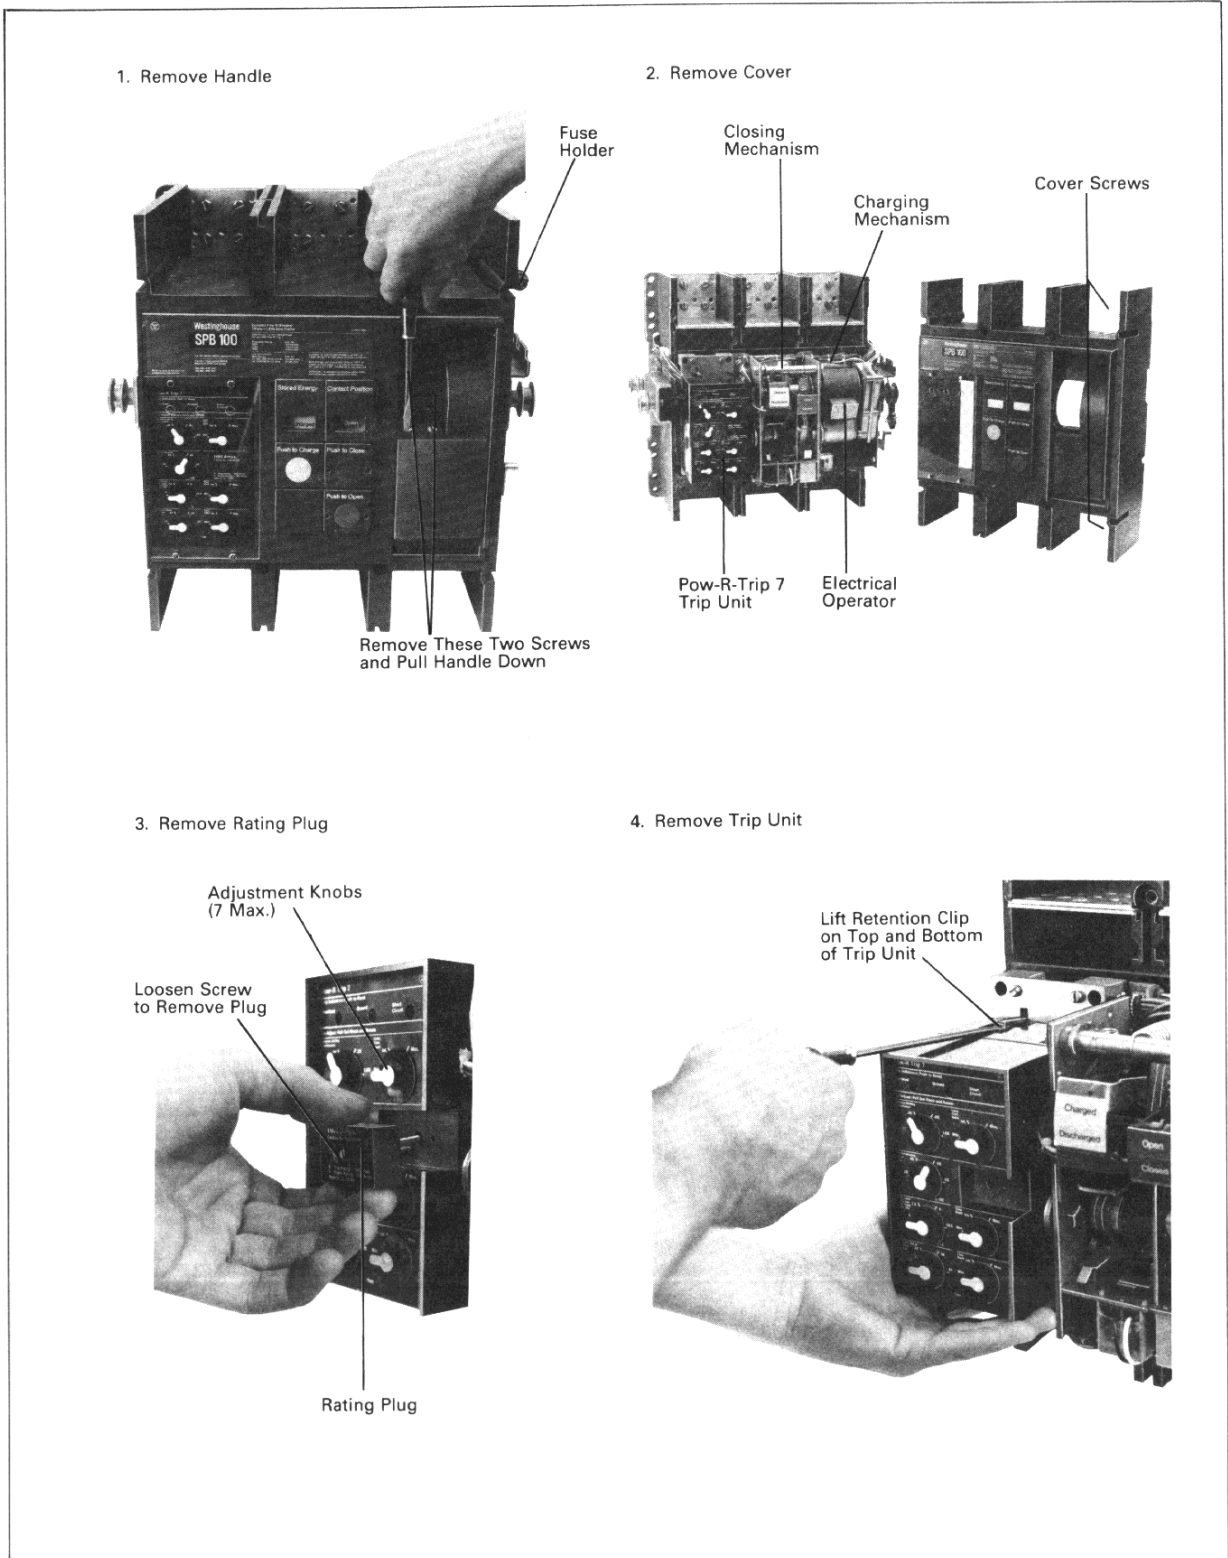

Fig. 2-1. Removal of the Existing Trip Unit and Rating Plug
1. Refer to Fig. 2-1. Remove the breaker manual charging handle by removing the two screws as shown and pull the handle down.